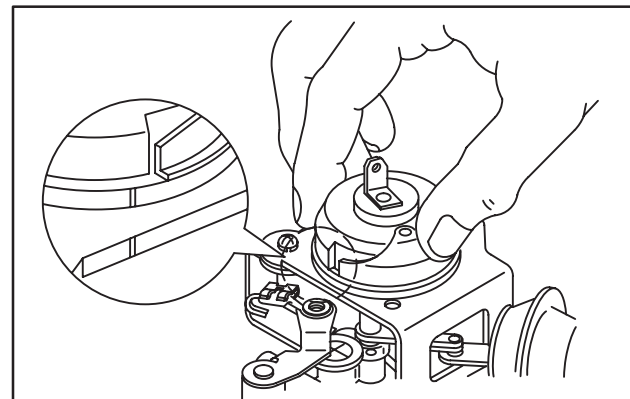

Fig. 46 – Pre-loading Thermostat Spring
8. Hold choke plate closed and rotate thermostat until match marks are aligned, Fig. 46.